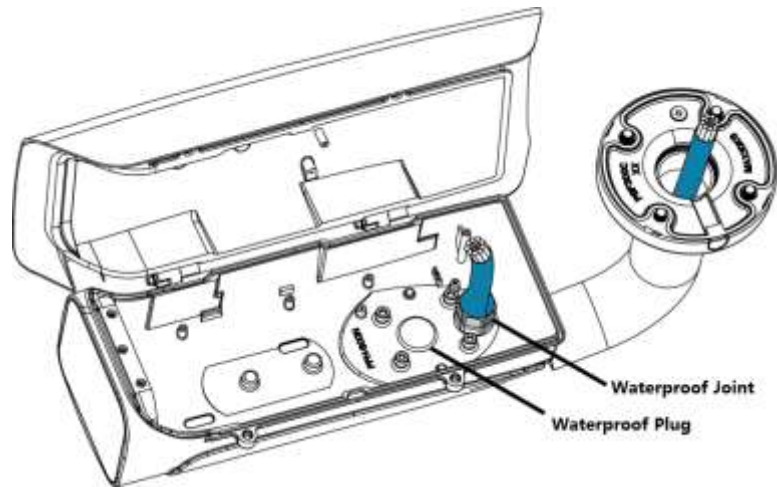

Figure 3-4
Step 3 Put a waterproof joint onto wiring harness, and tighten the waterproof joint, as shown in Figure 3-4.